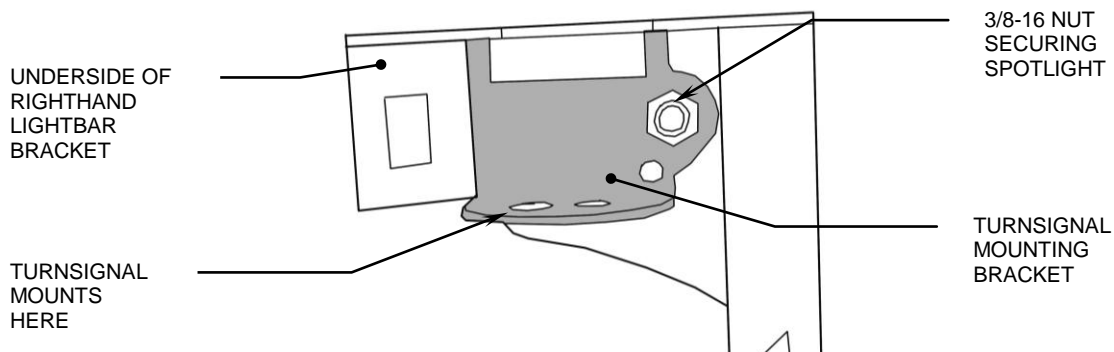

FIGURE 1.
1. Remove (2) M6 bolts and plastic trim from under headlight and disguard. Remove (4) M6 bolts that secure headlight bezel to headlight housing and set aside. Remove and unplug headlight.
3. Mount the new Cobra lightbar under the headlight with the (2) supplied M8 flange bolts where the stock turnsignals were mounted and snug. Check lightbar for level and proper alignment and tighten.
4. Install left turnsignal to supplied mounting bracket under lightbar with M10 nut removed in Step 2, see Figure 1. Repeat process on rightside. Align turnsignals and spotlight and tighten (2) M10 and (2) 3/8 nuts.